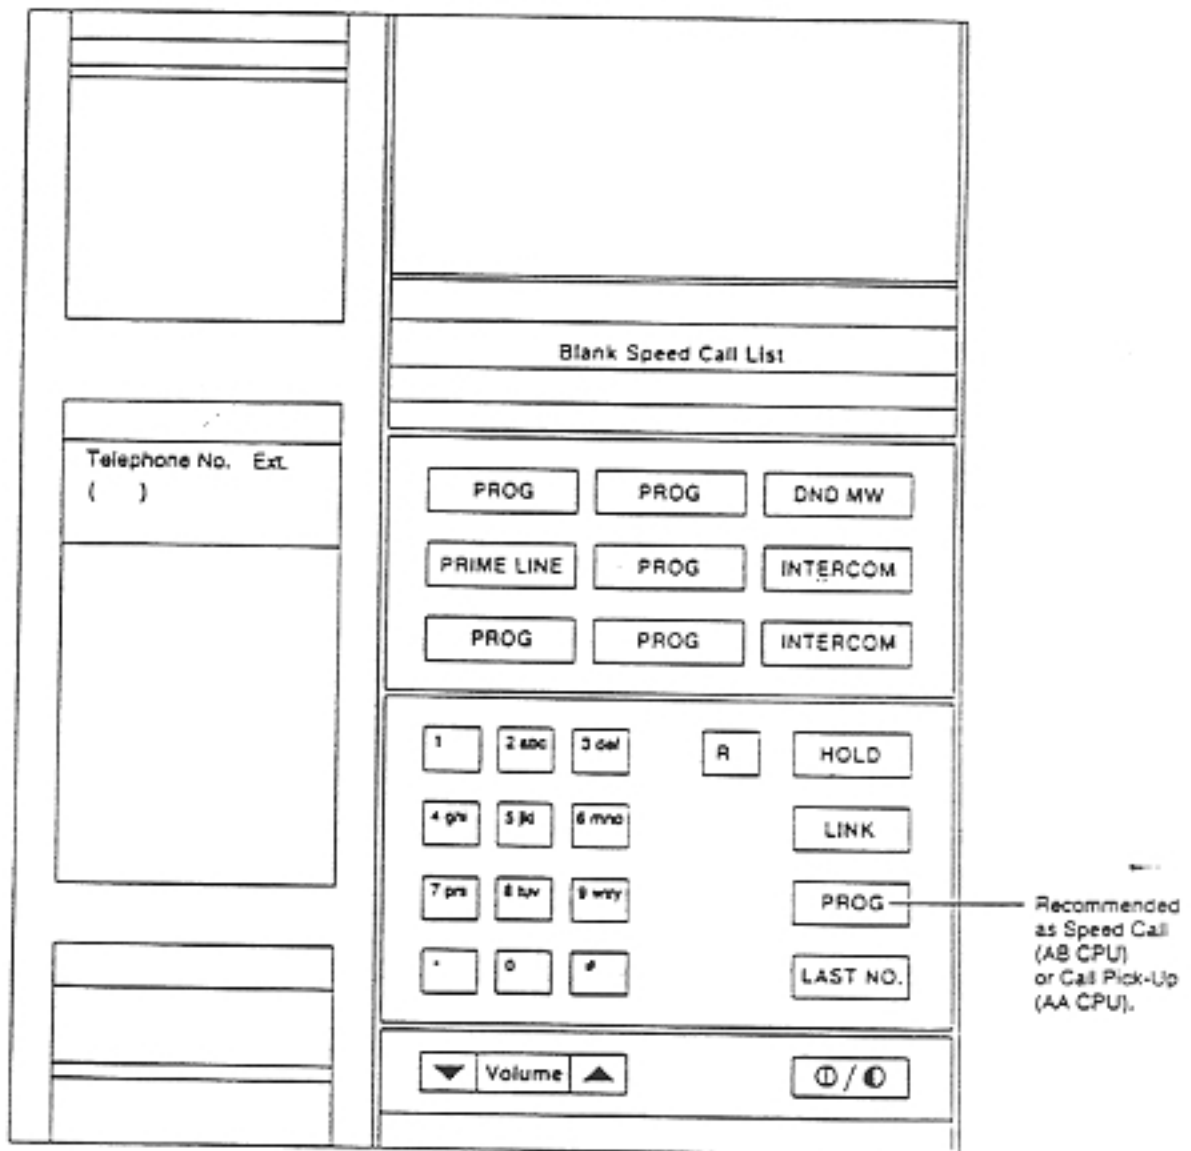

Fig. 4.2.
- 4.2.1 From the kit of key caps provided, select and assemble the feature key caps on the keys as per Fig. 4.2.